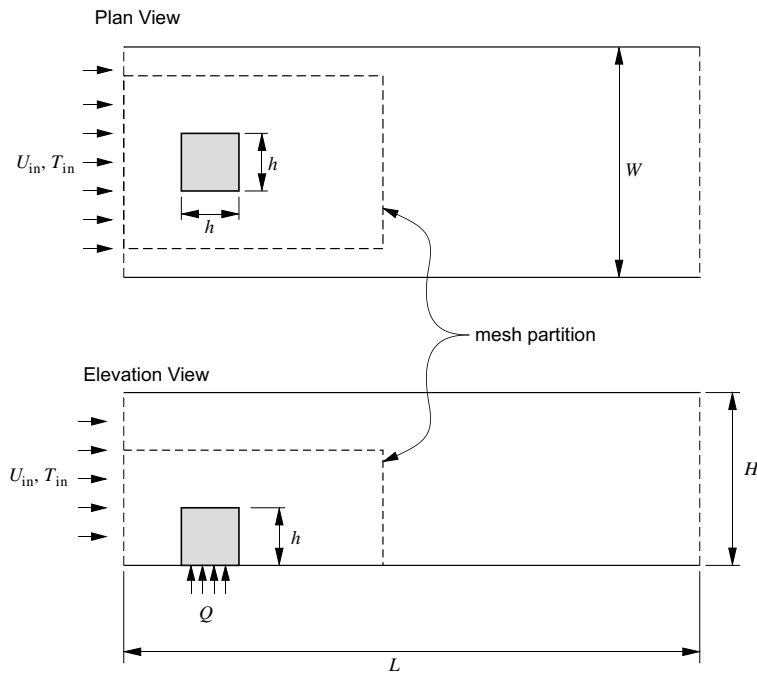

Figure 1: Geometry of the cubic block in the rectangular duct.
Figure 1 gives the plan and elevation views of the geometry. A cubic block of dimension  $h$  is situated near the inlet of a rectangular duct of height  $H$  and width  $W$ . The fluid (air) entering the duct has a uniform velocity  $U_{in}$ , and temperature  $T_{in}$ . The dashed box shown in the plan view indicates a
4. Sketch a 300 mm  $\times$  120 mm rectangle on the work plane. (See Figure 1.) Fix the dimensions of this rectangle and extrude it a distance  $H = 90$  mm to create the fluid volume of the duct.
- Sketch the plan view of the dashed rectangle in Figure 1. Dimension the rectangle to be 60 mm wide (across the duct) and at least 100 mm long (in the flow direction).